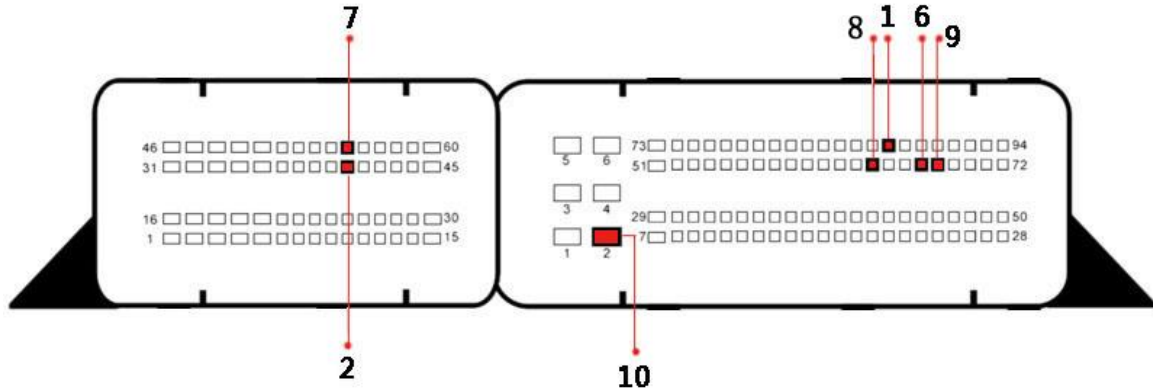

Figure 3
- Choose [View Wiring Diagram], as shown in Figure 3. According to the wiring diagram, connect the original car engine computer and the immobilizer programmer G3 (in order to improve the communication speed and stability, use a USB cable to connect the Android device and the Bluetooth connector).